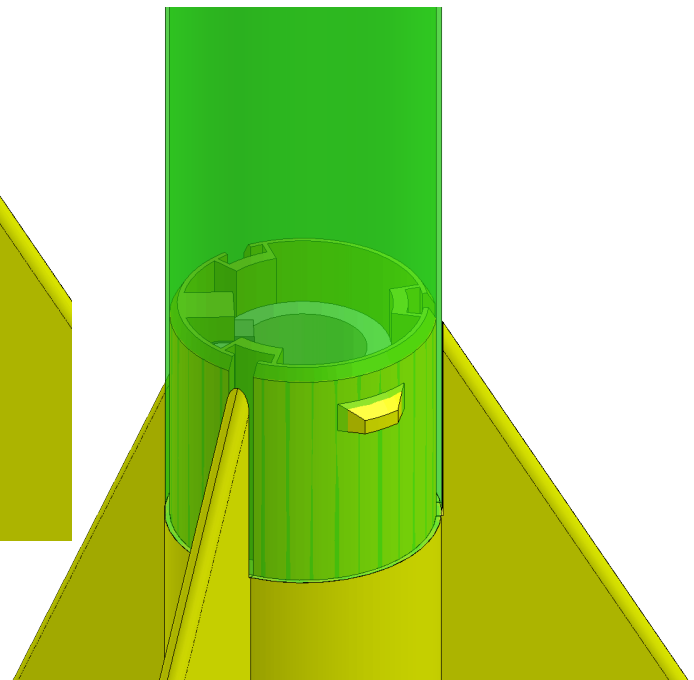

Fig. 27
Step 5. Click Add/Finish Mate  to add **Coincident** mate, Fig. 27.